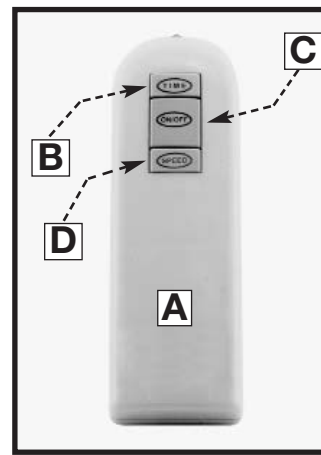
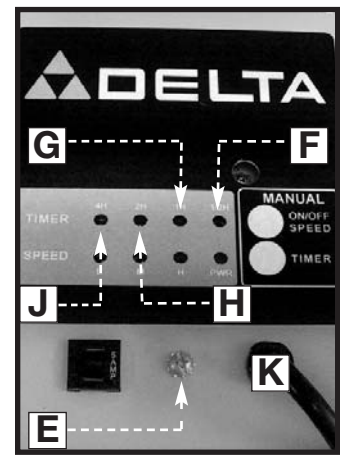

Fig. 8A
Fig. 8B
The Air Cleaner is equipped with a REMOTE CONTROL (A) Fig. 8A.
**NOTE:** The remote requires two (2) AAA batteries (not supplied). The Battery housing is located underneath the back cover.
Notice that the remote control has three control buttons (Fig. 8A): TIME (B), ON/OFF (C), and SPEED (D). These buttons correspond to the LED sensor panel on the rear of the machine (K) Fig. 10B.
**NOTE:** When the machine is connected to the power source, a green light (E) will be activated on the panel.
To activate the blower unit, press the “ON/OFF” button (C) Fig. 8A. The machine will begin in the default speed of Low or “L” on the sensor panel. Press the SPEED button once, and the machine will run at the high (or “H” level). Press the SPEED button again, and the machine will run at the medium speed (or “M”). Press the SPEED button a third time, and the machine will return to the Low Speed mode.
To turn the machine off, press the “ON/OFF” button (C) Fig. 8A.
When the “TIME” button (B) Fig. 8A is pressed on the remote control, the machine will run for 1/2 hour. (An LED light will show up on the sensor panel (F) Fig. 8B). Pressing the “TIME” button again will set the machine to run for one hour. Notice that the light on the sensor panel has now moved to the 1H location (G) Fig. 8B. When the “TIME” button is pressed a third time, the machine will run for two hours. At this point, the green light will show up under the two hour location (H). When you press the “TIME” button the fourth time, the unit will run for four hours. Notice that the indicator light (J) glows at the four hour mark.
All of these functions can be manually controlled by using the two buttons on the sensor panel (K) Fig. 8B.